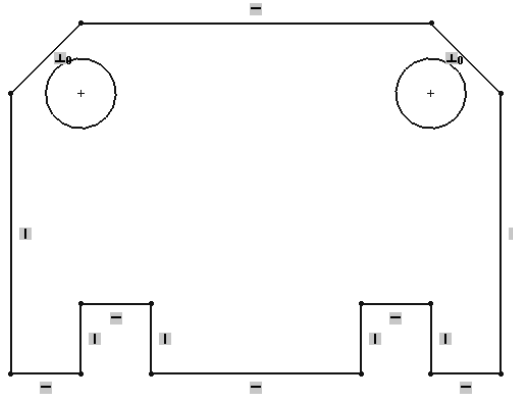

Figure 2-69 Sketch after drawing the two inner circles
7. Similarly, draw the circle on the left using the inferencing lines generating from the endpoints of the left inclined line. The sketch, after drawing the two circles inside the outer loop, is shown in Figure 2-69.